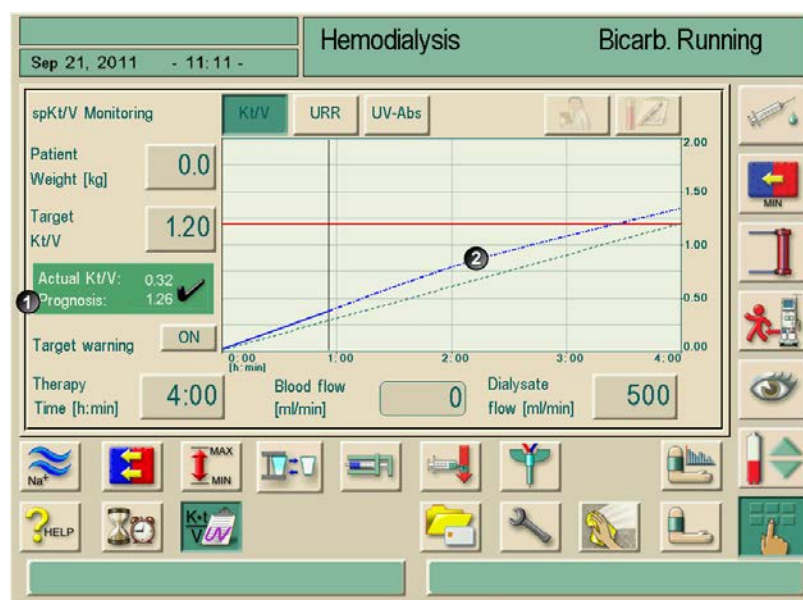

Fig. 10-16 Numerical and graphical display of the prognosis
- By touching one of the displayed therapies the screen showing the black dashed progress line (Fig. 10-16, 1) opens: